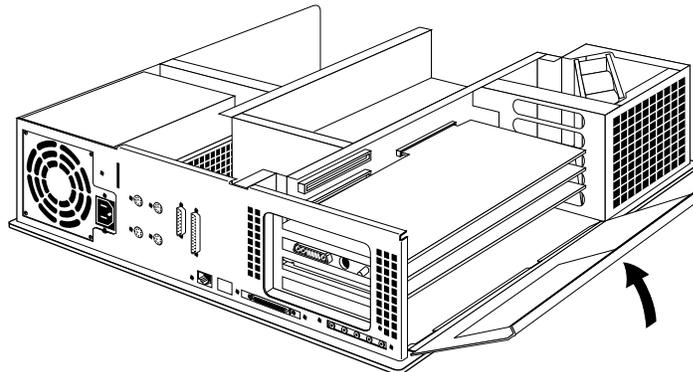

Figure 2-7 Closing the Metal Panel in Front of the ISA Slots
7. Tip the metal panel up until it snaps into place, as shown in Figure 2-7.